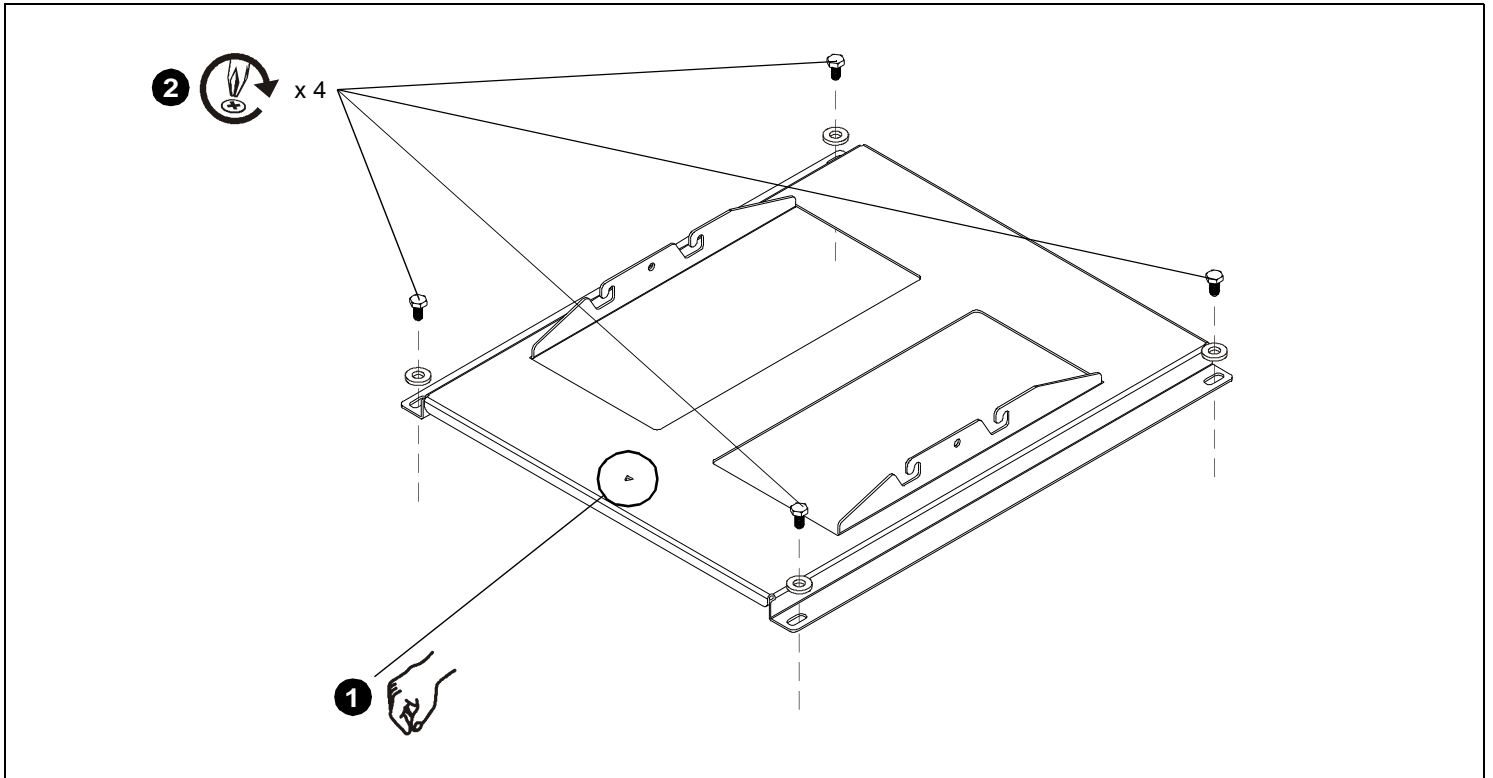

Figure 1
1. Lower custom HB bracket onto top of projector. Ensure that triangle in bracket points toward front of projector. (See Figure 1)
2. Attach HB bracket to projector using four M10 x 20mm hex head screws through four M10 flat washers and four holes in the HB bracket. (See Figure 1)